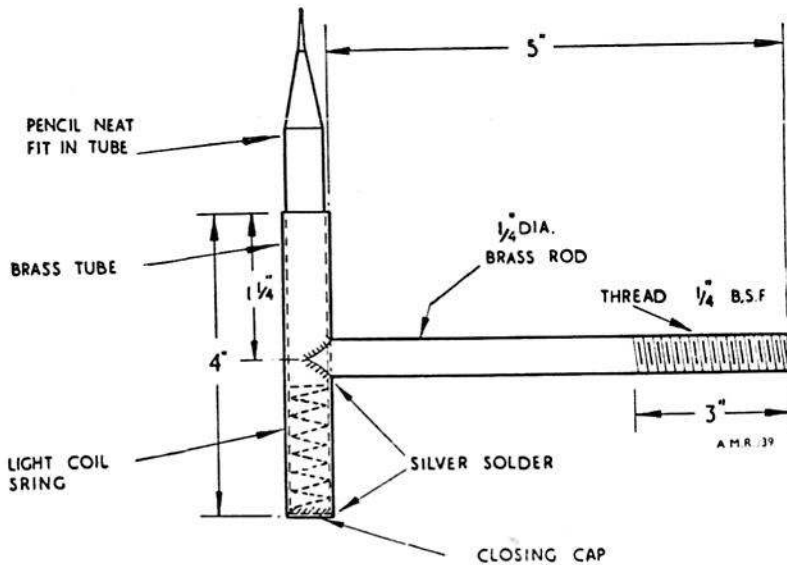

Fig. 6. Pencil holder
8. (1) The time-delay mechanism must operate in $\frac{1}{2}$ sec. $\pm \frac{1}{10}$ sec., and the method of testing is as follows:—
- (a) Make a pencil holder as shown in fig. 6.
18. (1) Starting with the face screen fully extended, carefully roll the screen over the lower edge of the slot in the drogue container until the final result is as nearly as possible that shown in Chap. 3, fig. 6.